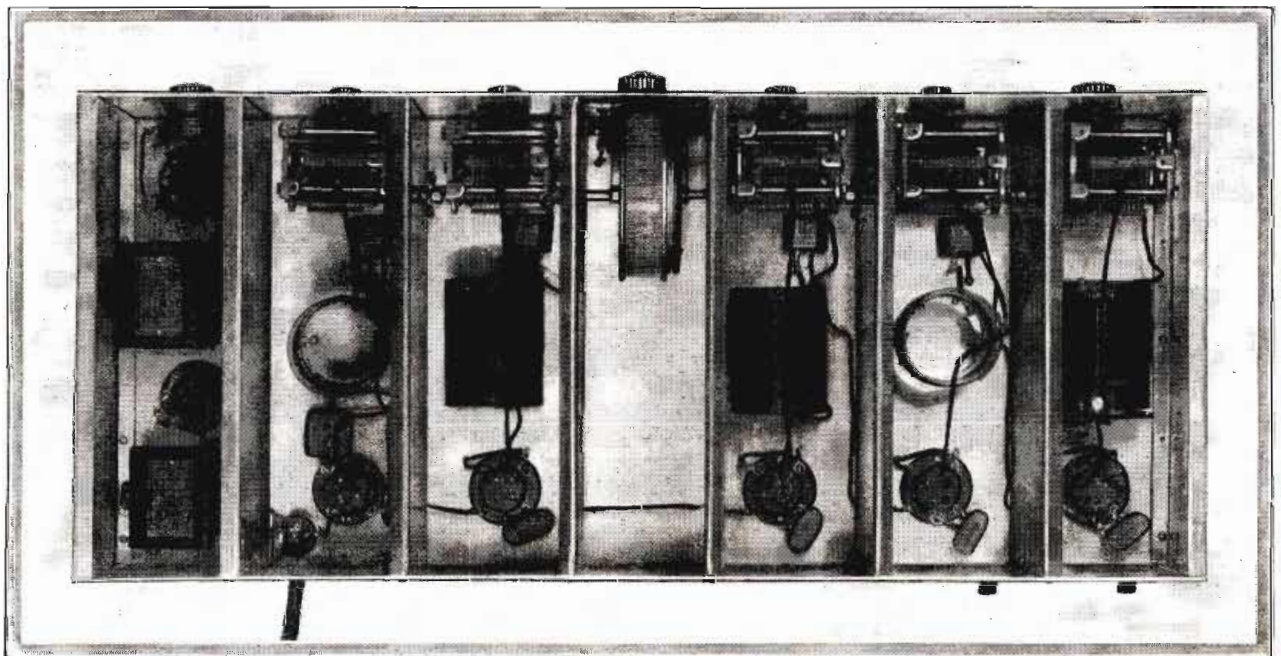

Fig. 1. This photograph shows the top view of the receiver with the shield removed
**Fig. 4.** In this particular graphic diagram the parts have been placed exactly as shown in the photograph in Fig. 1, so that this illustration serves both as a layout and a graphic wiring diagram
The receiver is named for Sargent and Rayment, who will doubtless be remembered as the designers of the Infradyne circuit, and is a seven tube radio frequency receiver having four individually shielded tuned r. f. amplifier stages, a detector and two high gain Clough audio amplifier stages. An inspection of the photograph in Figure 1 will show that the receiver consists of an aluminum shielding assembly, which acts as the cabinet for the entire receiver and at the same time an individual stage shielding for the various sections of the set. The cabinet is made up of a pierced aluminum chassis with edges turned down, to which are fastened a number of smaller formed pans, which serve as partitions between the respective stages. The front and back panels which are attached to the chassis and to all eight partitions complete the assembly. For the cover an aluminum sheet, the edges of which are turned over, is provided.
Examination of the photograph in Figure 1 will show that the energy from the antenna progresses from the antenna tuning circuit in the extreme left compartment of the aluminum shielding cabinet through the four stages of tuned r. f. to the detector in the sixth compartment. Four screen grid tubes are used in the r. f. stages and a 112-A for the detector. In the extreme right compartment is located the two stage audio amplifier and output transformer with a volume control. While the photograph seems to actually show only two audio transformers, nevertheless this is not the case, for the 251 output transformer is placed on top of the 256 second stage audio trans-